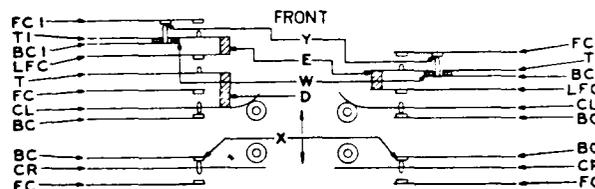

Fig. 1 - 311 Type Key Spring Arrangement
Exception: Fig. 1 — Plunger springs (CR) approximately 850 grams. Plunger springs (CL) approximately 575 grams. Spring (T) shall hold stud "D" against spring (CL). Springs (LFC) and (TI) tensioned against stud "E" so that washer "W" is against spring (BC1) and there is .040" separation between contacts on (LFC) and contact on adjacent facing spring. Spring (FC1) approximately 225 grams against long contact of (BC1).
1.18 *Non-Click* — Fig. 1 — Lever release shall not open "X" or "Y" contacts.